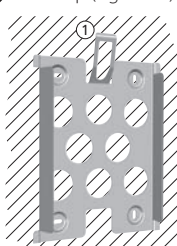

Figure 22
- The mounting plate must lie flat on the mounting surface and the metal strips at the sides must point forwards (Figure 22).
- Install the mounting plate vertically with the retaining plate ① at the top (Figure 22).